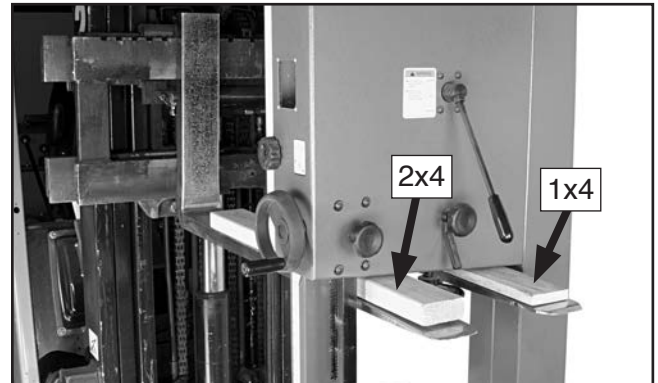

Figure 22. Example of lifting bandsaw with forklift using wood shims.
3. Carefully place forklift forks under bandsaw head. Insert a 1x4 block between head and left fork, and a 2x4 block between head and right fork so bandsaw is level, as shown in **Figure 22**.